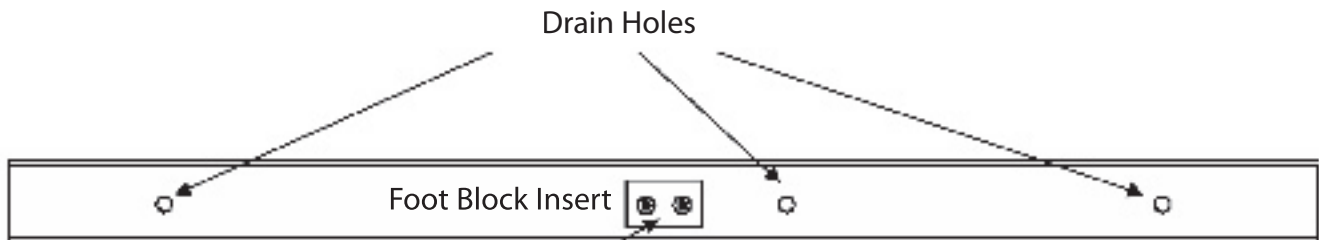

Figure 6. Drain Hole Locations (Bottom of Bottom Rail).
- 3.) Drill Drain Holes. Take the 2" x 3½" rail and drill three ¼" drain holes on the underside of the bottom rail as shown in Figure 6.